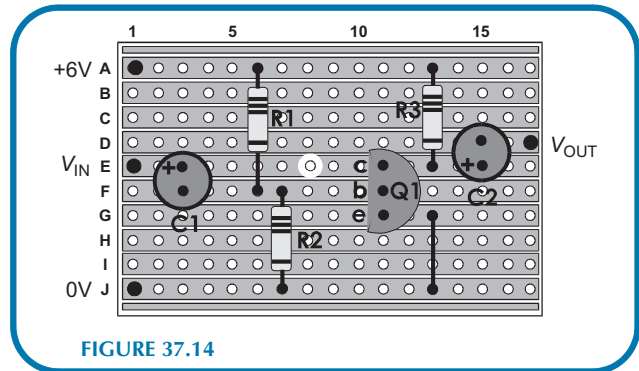

FIGURE 37.14
- 1 Build the preamplifier, either on a breadboard or on stripboard (p. 86). For the stripboard layout follow the diagram (Figure 37.14). Add R4 and C3 in the space left vacant to bottom right. Do not include the wire link from G13 to J13.
Figure 37.14 shows how to lay out the components on a piece of stripboard. This is a top view. The black dots at A1, E1 and J1 are 1 mm terminal pins. The diagram shows the copper strips, but these are *under* the board. You can see where to cut one of the strips at E8. A wire link runs from G13 to J13.